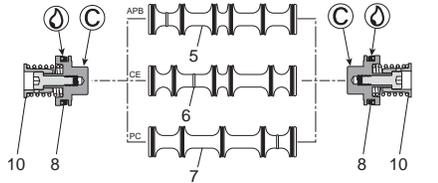

Figure 1 (H1 Shown)
Refer to Figure 1 to aid with disassembly and reassembly.
1. Remove Valve from base by removing Body to Base Screws (22).
2. Remove Coil Nut(s) (16), Coil(s) (15 / 17) and Coil to End Cap Gasket(s) (4).
3. Remove Solenoid Pilot Operator(s) (14), if applicable, by removing the two Screws (18).
4. Remove Pilot Bypass Plate (21), if applicable, by removing the two Screws (13).
5. Remove Pilot Select Gasket(s) (2).
6. Remove each End Cap (12 / 19) by removing the 4 Screws (13).
7. Remove the Pistons (9 or 10), Spool Return Spring (20), if applicable, and the Spool (3, 5, 6 or 7), being careful not to scratch the valve body bore.
9. Apply a light coating of grease to each part noted in Figure 1 and the mating sealing surface of each of these parts.
\* See Figure 1